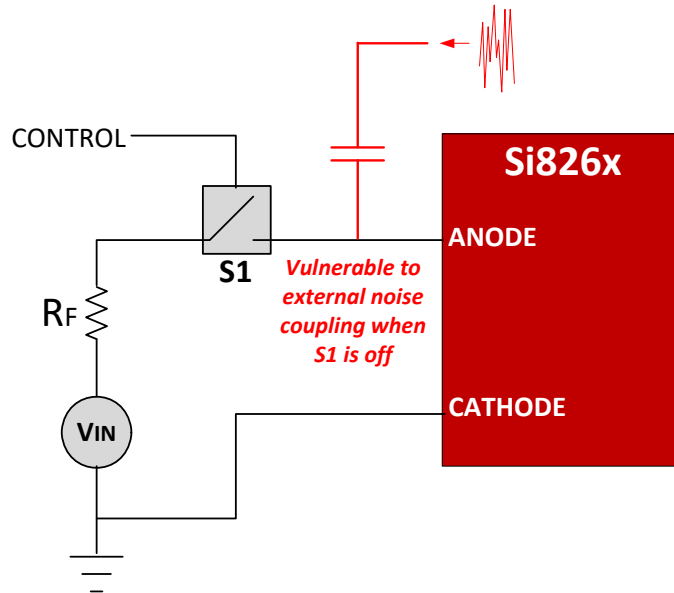

Figure 4. Poor Input Circuit Design
The Si826x drops directly into the opto-driver landing site with no changes to the PCB. Opto-drivers sometimes use added external circuitry to enhance noise performance (typical examples include reverse bias and LED shunting switches). These components may be left intact or may be removed depending on the end application. High electrical noise environments should drive the anode input through a low-impedance source for best CMTI performance. The input circuit should not allow the LED emulator to be open-circuited and thereby vulnerable to parasitic coupling that can corrupt data transmission, as shown in Figure 4.
- Updated Figure 4 on page 4.